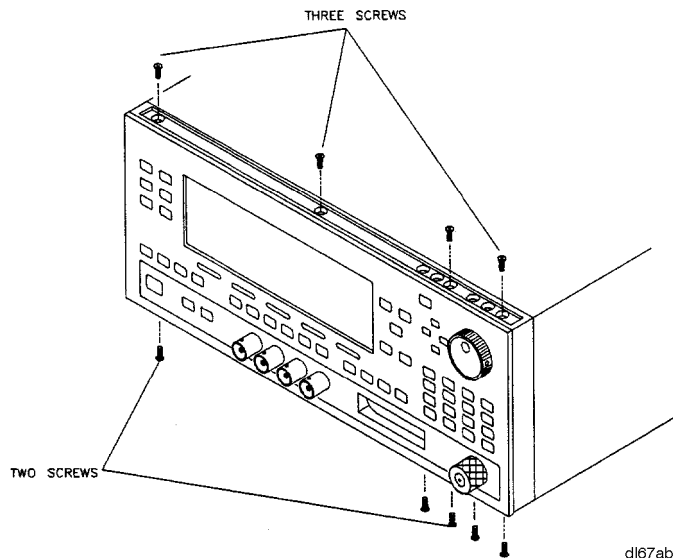

Figure 2. Front Panel Screw Locations
6. Refer to Figure 2. Remove *three* of the four screws under the trim strip.